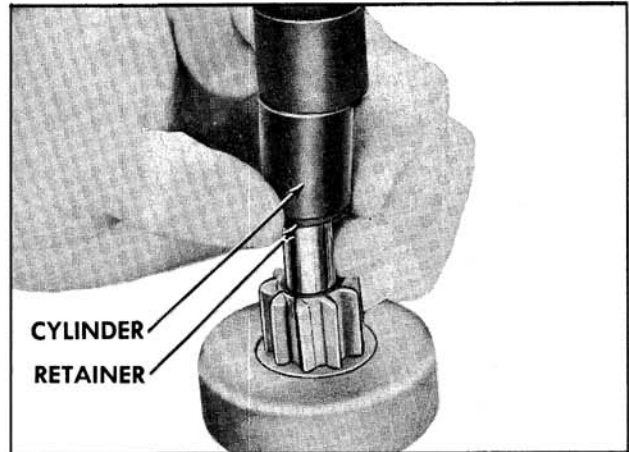

Fig. 13-48 Removing Pinion Retainer
- other metal cylinder of suitable size (an old pinion can be used if available) over shaft against retainer to be used as a driving tool. (Fig. 13-48) With armature shaft supported on wood block, tap end of driving tool until retainer clears snap ring.